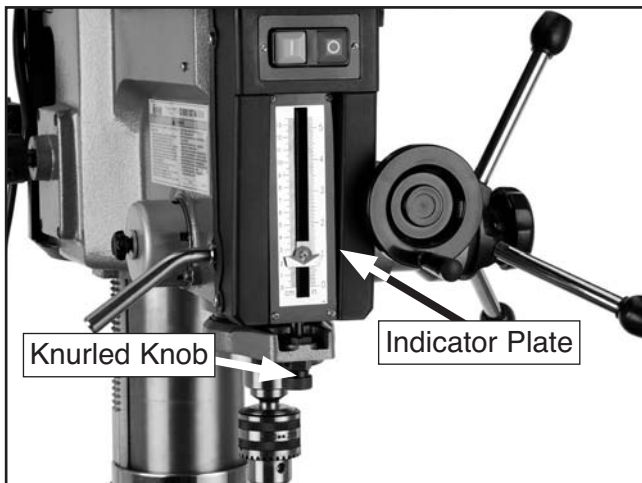

Figure 30. Setting depth stop.
2. Turn the depth stop leadscrew until the top of the indicator plate is level with your desired depth as listed on the scale to the left or right. The depth stop leadscrew is controlled by the knurled knob under the front of the headstock (**Figure 30**).